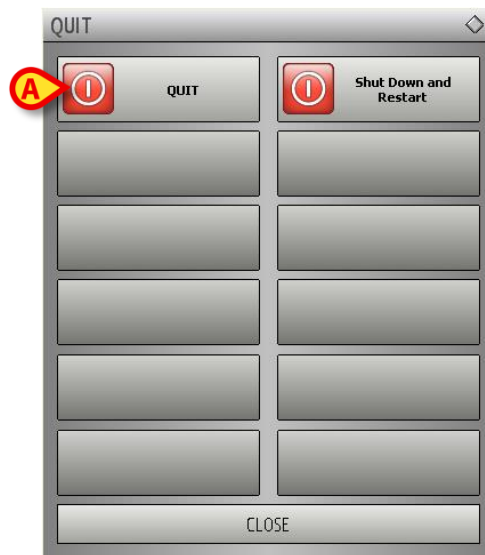

Fig 46
Another menu is displayed (Fig 46).
- Click the **Quit** button again (Fig 46 A).